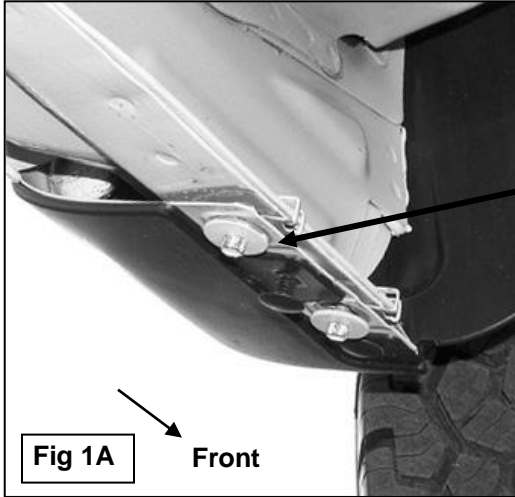

Fig 1A Front
2. Starting at the front of the driver side of the vehicle, remove the two small hex bolts and the metal clips holding the bottom of the fender to the body, **(Figure 1A)**. **NOTE:** Use a small flat screwdriver to spread the clip apart for easy removal. Due to body panel misalignment from the factory, it may be necessary to open these holes slightly with a 3/8" drill bit, **(Figure 1B)**.